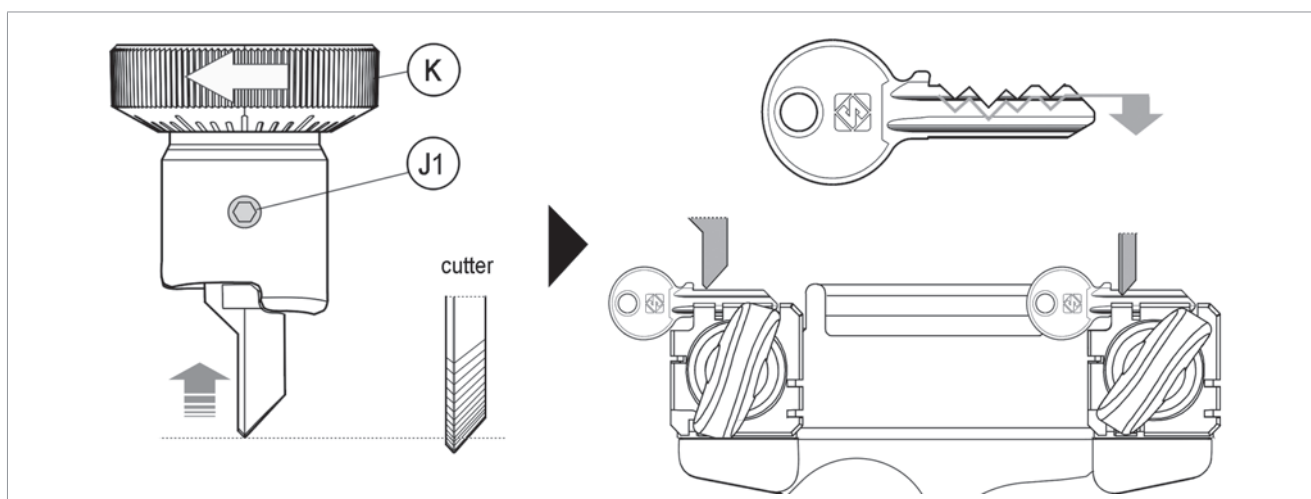

Fig. 19
- c) turn the ring nut (K) anticlockwise to return (deeper cuts) (Fig. 19).